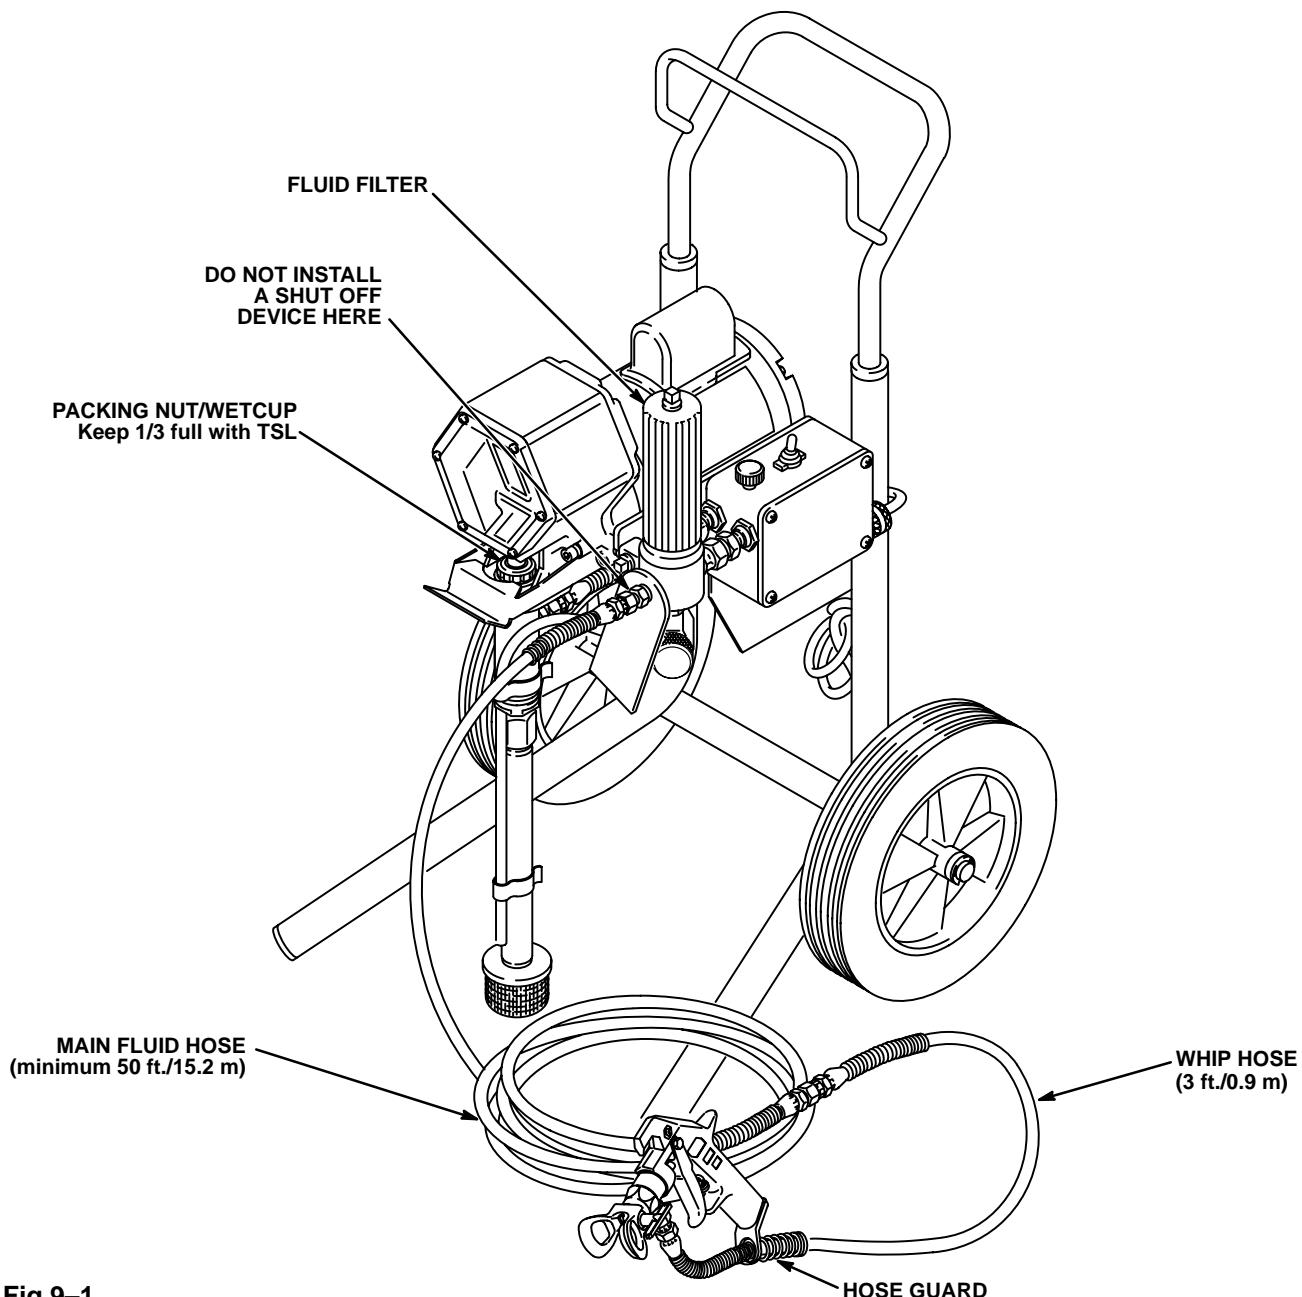

Fig 9-1
3. Never install any shutoff device between the filter and the main hose. See Fig 9-1.
- a. Be sure the ON/OFF switch is OFF. See Fig 9-1.
1. Connect the hose and gun. See Fig 9-1.
2. **Fill the packing nut/wetcup** 1/3 full with Graco Throat Seal Liquid (TSL), supplied. Remove the plastic plug from the top of the pump first. See Fig 9-1.